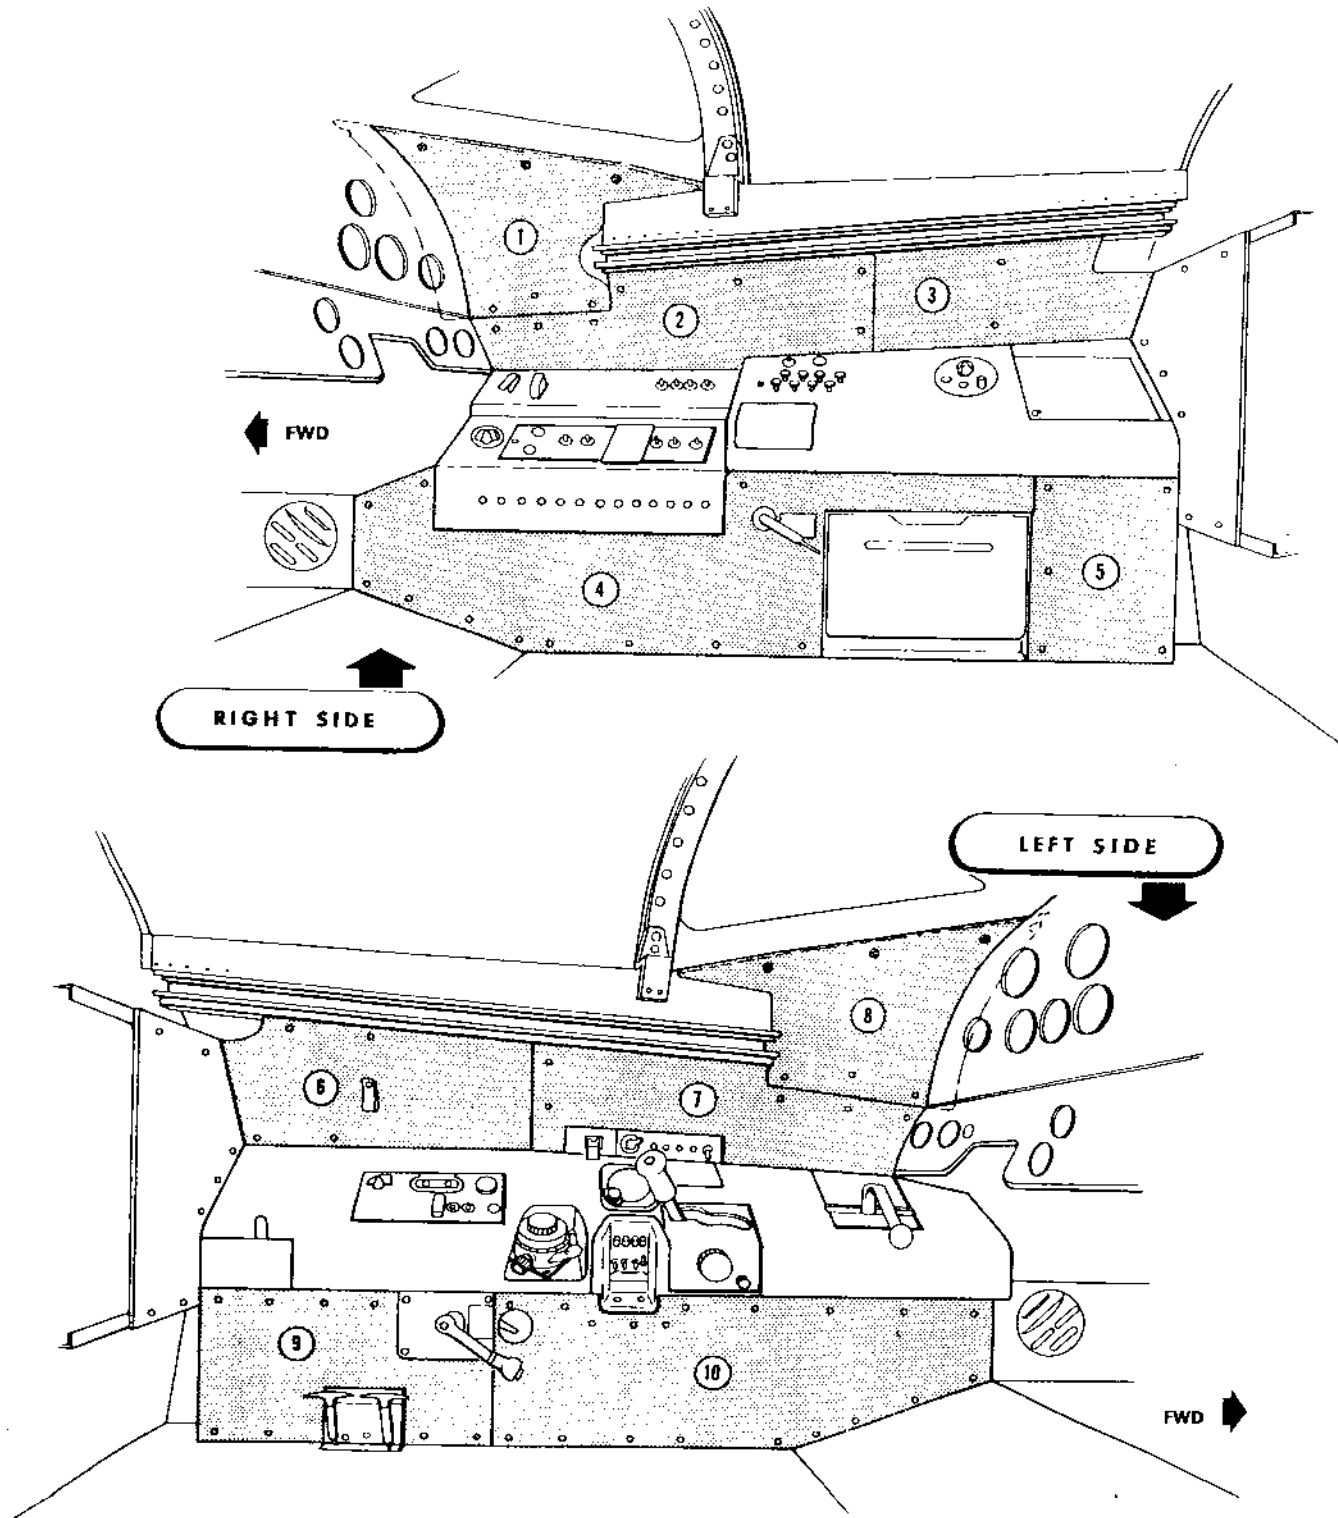

Figure 248 — Cockpit Trim Panels
f. **COCKPIT TRIM PANELS.** (See figure 248.)—The trim panels are fastened to the airplane structure with screws. The two panels which fair into the ends of the instrument panel are .020 24S-T Alclad sheet. The remaining panels above and below the cockpit side shelves are $\frac{1}{32}$ -inch dark green phenolic resin sheet, Specification HH-P-256.